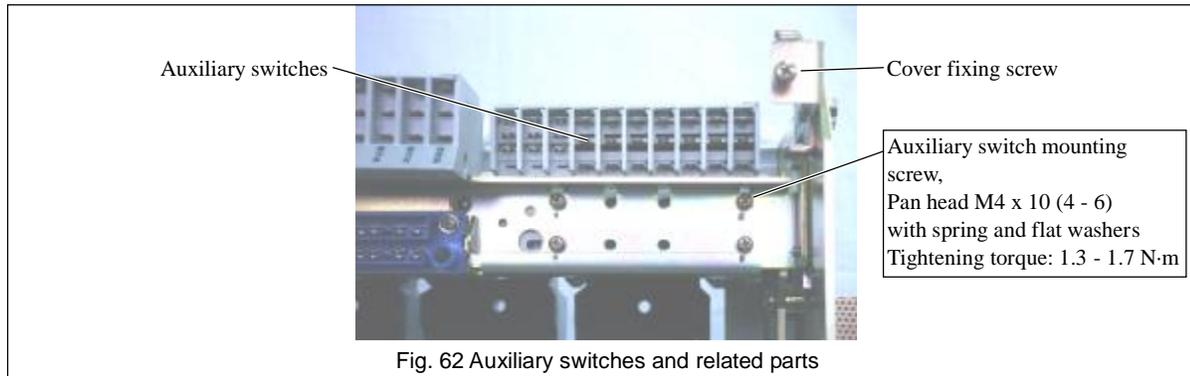

Fig. 62 Auxiliary switches and related parts
- 3) Remove the auxiliary switch mounting screws shown in Fig. 62.